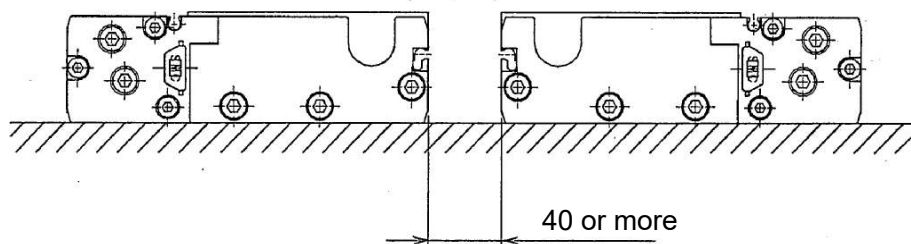

Fig. 12
6. When operating multiple cylinders with the auto switch in parallel, separate the cylinders, maintaining a minimum separation distance of at least 40mm. (See Fig. 12)